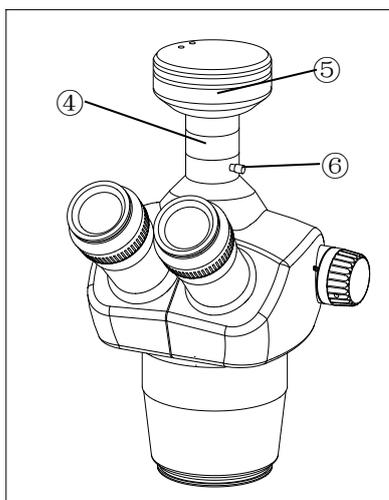

Fig.5
2.2.4 Video (Photography) accessories assembly (Fig.5, Fig.6)